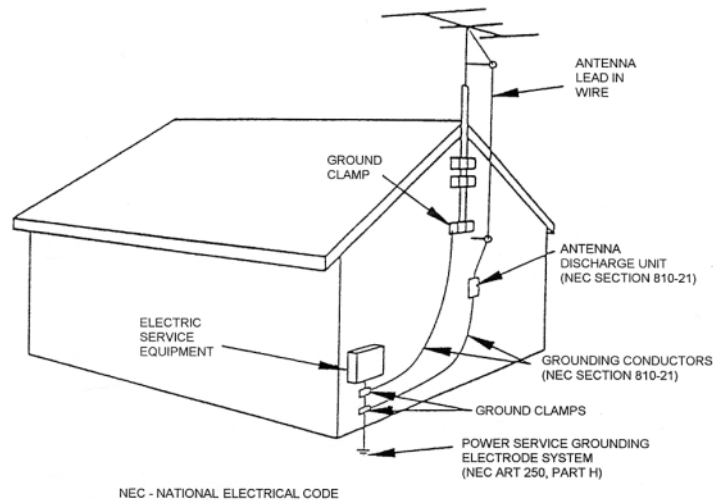

FIG. 1 Outdoor antenna grounding
Use the same bonded-ground as the house. Refer to the FIG. 1 on page c for more information.
- 15. Outdoor Antenna Grounding** - If an outside antenna or cable system is connected to the product, make sure the antenna or cable system is grounded to provide some protection against voltage surges and built-up static charges (FIG. 1). Article 810 of the National Electrical Code, ANSI/NFPA 70, provides information regarding proper grounding of the mast and supporting structure, grounding of the lead-in wire to the antenna discharge unit, size of grounding conductors, location of antenna-discharge unit, connection to grounding electrodes, and requirements for the grounding electrode.